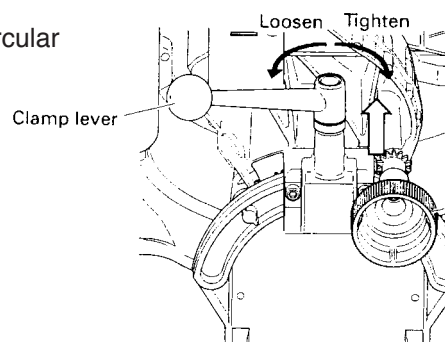
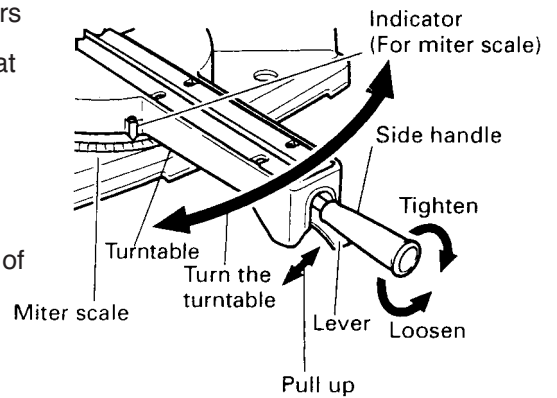

Fig. 6
Fig. 7
(4) Miter and bevel angle fine adjustment
The Model C 12LSH and C 12RSH are easily and finely adjustable to an optional miter and bevel angle. Loosen the side handle and turn knob (A) while pulling up the lever to adjust the miter angle finely (Fig. 7). Loosen the clamp lever and turn knob (B) to adjust the bevel angle finely (Fig. 6).
(5) High sub fence